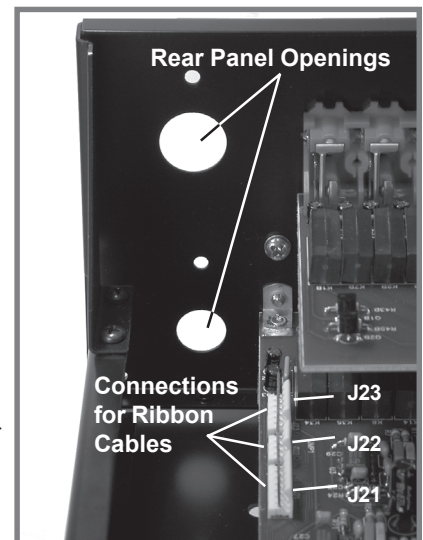

Figure 20
5. Locate the three supplied ribbon cables from the shipping carton and attach the plug of the Six Conductor Ribbon Cable to the six pin Socket "J23" as indicated on the C45 Main PC Board. Refer to figure 1 on page 3, figures 20 and 21 on this page.